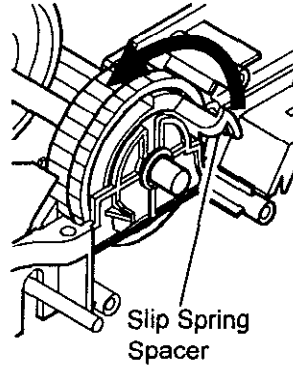

Figure 2 Rotate Paper Feed Roller and Slip Ring Spacer
1. Rotate the Paper Feed Roller and Slip Ring Spacer to the front towards the Carriage Assembly (Figure 2).